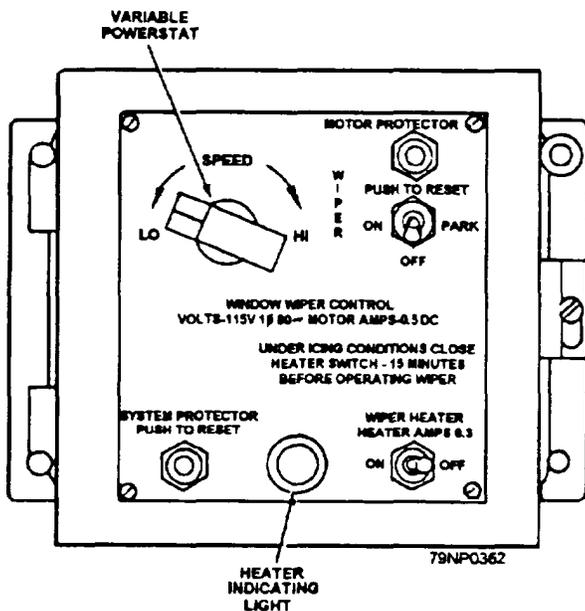

Figure 5-14.—Control box assembly.
1. Control box assembly (fig. 5-14). The control box consists of the three-position wiper switch, the wiper arm heater switch, a light to indicate when the heater is energized, a variable powerstat for wiper control, motor and system overload protectors, and a full-wave bridge rectifier.